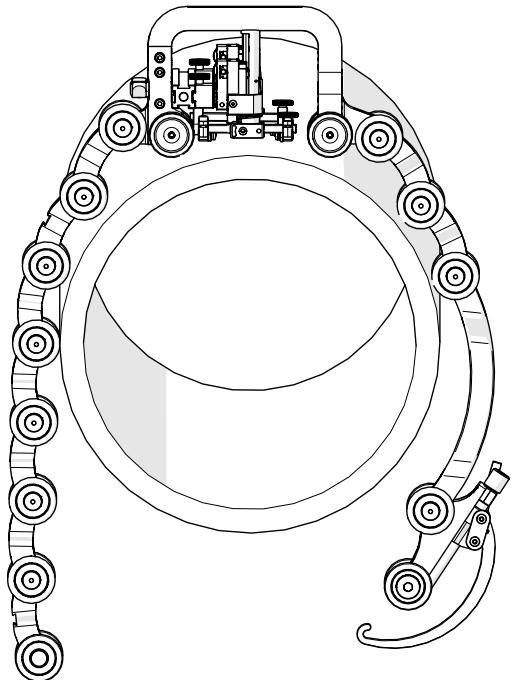

Fig. 72 - Place on pipe
5. Drape the configured assembly around the pipe/tube to be inspected (Fig. 72). Ensure the double wheel chain links straddle the weld (during two probe scanning).